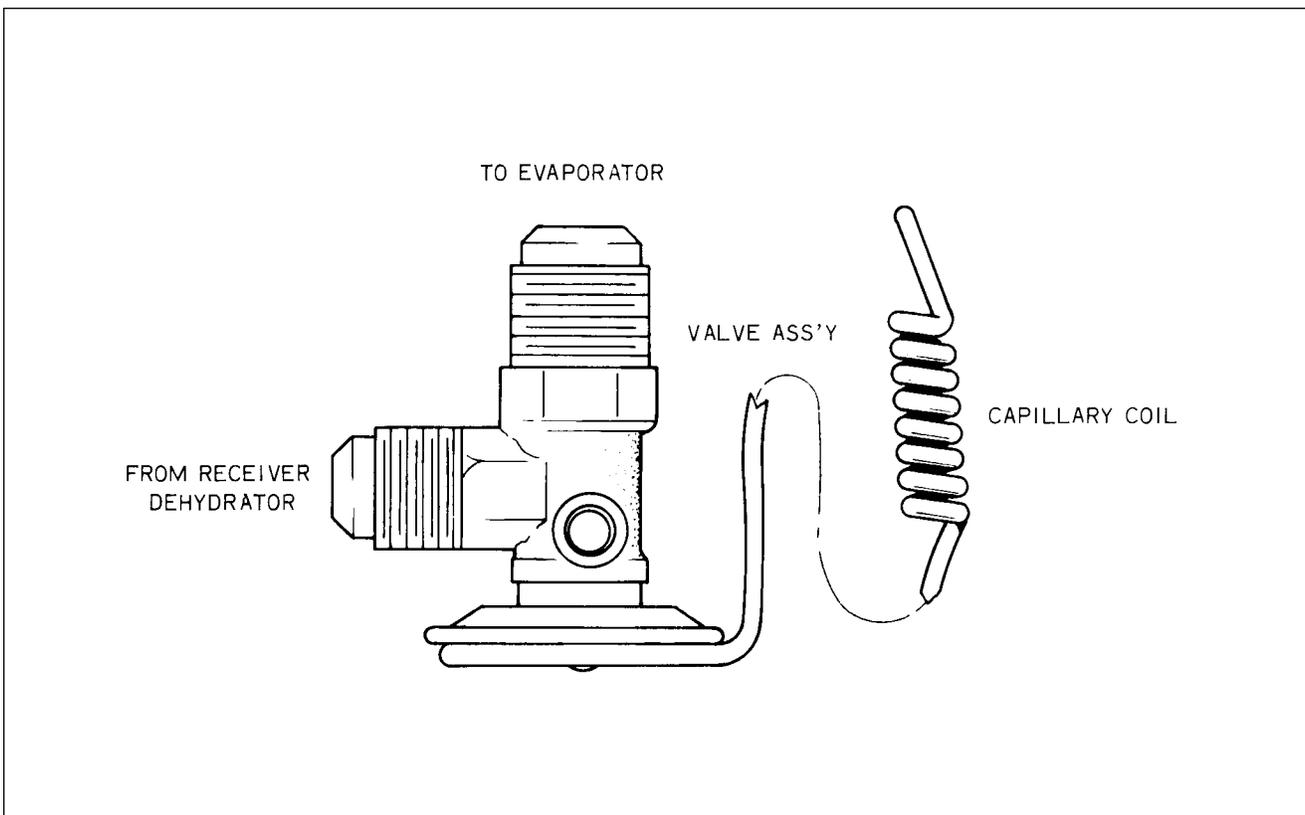

Figure 21-18. Expansion Valve
**EXPANSION VALVE.** (Refer to Figure 21-18.)